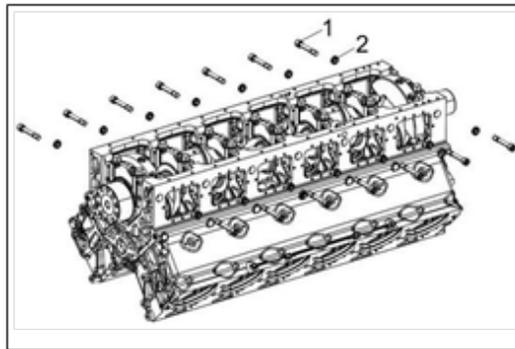

Figure 115.
- Loosen and remove the main bearing cap auxiliary bolts (Figure 115, item 1) and washer (Figure 115, item 2).